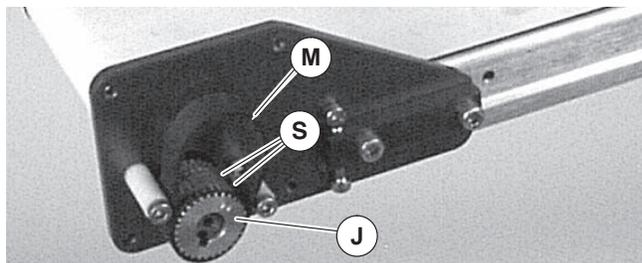

Figure 6
- Install driven pulley (Figure 6, item J). Tighten two (2) set screws to 33 in-lb (3.7 Nm).
- Place timing belt (Figure 6, item M) over driven pulley (J) and between belt flanges (S).